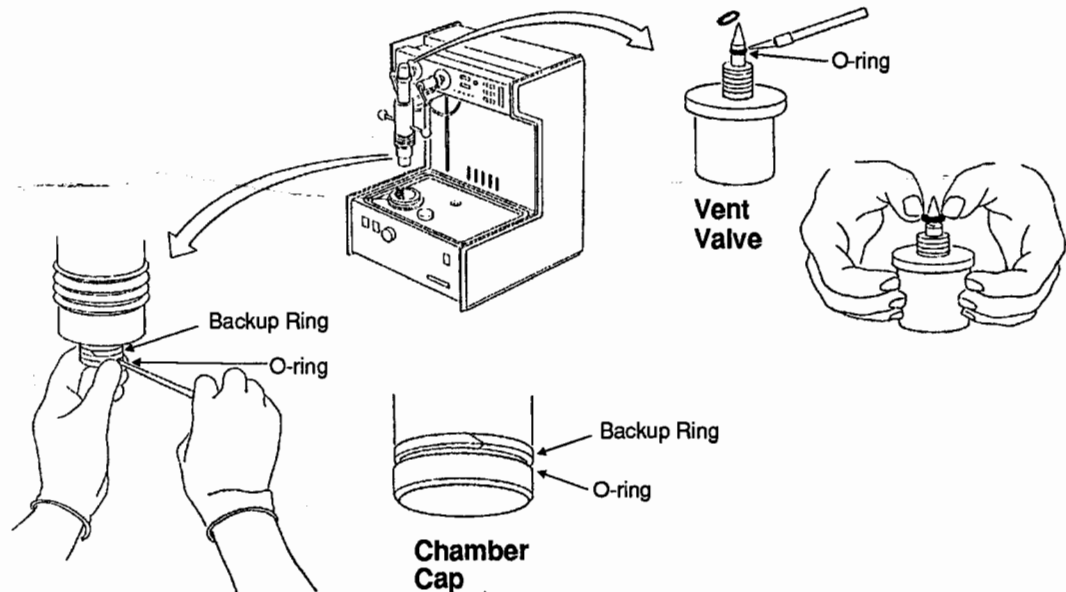

Figure 8-3. Replacing O-Rings and Backup Ring
3. Replace the O-ring in the vent valve as shown in Figure 8-3.